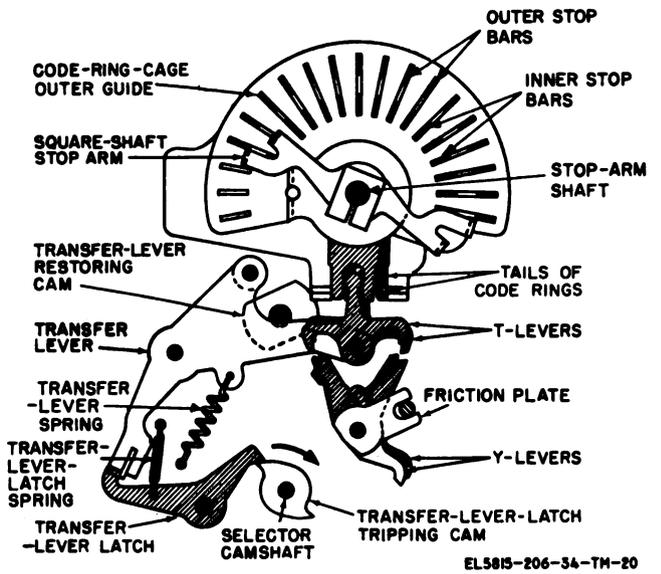

Figure 2-20. Transfer lever in latched position.
retent on the TT-4B/TG, TT-4C/TG, TT-335/TG, TT-537/G, TT-698A/TG, and TT-698B/TG, or the friction plate on the TT-4A/TG and TT-698/TG (fig. 2-20). In this way, each time a marking code impulse is received, its associated Y-lever is moved to the clockwise position.
The purpose of the transfer operation is to pivot each of the five code rings to a position (marking or spacing) to correspond with the nature (marking or spacing) of each of the five code impulses of a received code group. When positioned, the code rings select a stop bar (para 2-20) which controls the selection of the character to be printed or the function (nonprinting mechanical operation) to be performed. The transfer operation occurs automatically, immediately after the five Y-levers are positioned clockwise or counterclockwise in accordance with the nature of each of the five code impulses of the code group (para 2-18a and b). Five T-levers (fig. 2-20) are used to position the code rings. The T-levers are mounted on a common pivot stud that is attached to one arm of the transfer lever. Each T-lever is mounted above, and in alignment
a. Condition Before Transfer Operation. When the five Y-levers are being positioned (para 2-18), the transfer-lever latch holds the transfer lever in the counterclockwise position against the pull of the transfer-lever spring, and the five T-levers are held above their respective Y-levers (fig. 2-20).
b. Positioning T-levers and Code Rings. Immediately after the fifth selector cam positions the fifth Y-lever, a lobe of the transfer-lever-latch tripping cam (fig. 2-15) pushes against one arm of the transfer-lever latch (fig. 2-20). The latch pivots counterclockwise, releasing the lower arm of the
| 1 | Transfer-lever-latch tripping cam pivots transfer-lever latch (fig. 2-20). |
A stop bar is selected by the code rings immediately after the five code rings are set to the marking or spacing positions as determined by the five code impulses of the received code group (para 2-19). Thirty-two of thirty-five stop bars provided are used to control the point at which rotation of the square-shaft stop arm (fig. 2-20) is halted after each code group is received. The remaining three stop bars (fig. 2-24) do not affect rotation of the square-shaft stop arm; they activate mechanism for the linefeed, carriage-return, and figures-shift operations (para 2-22, 2-26 and 2-29).